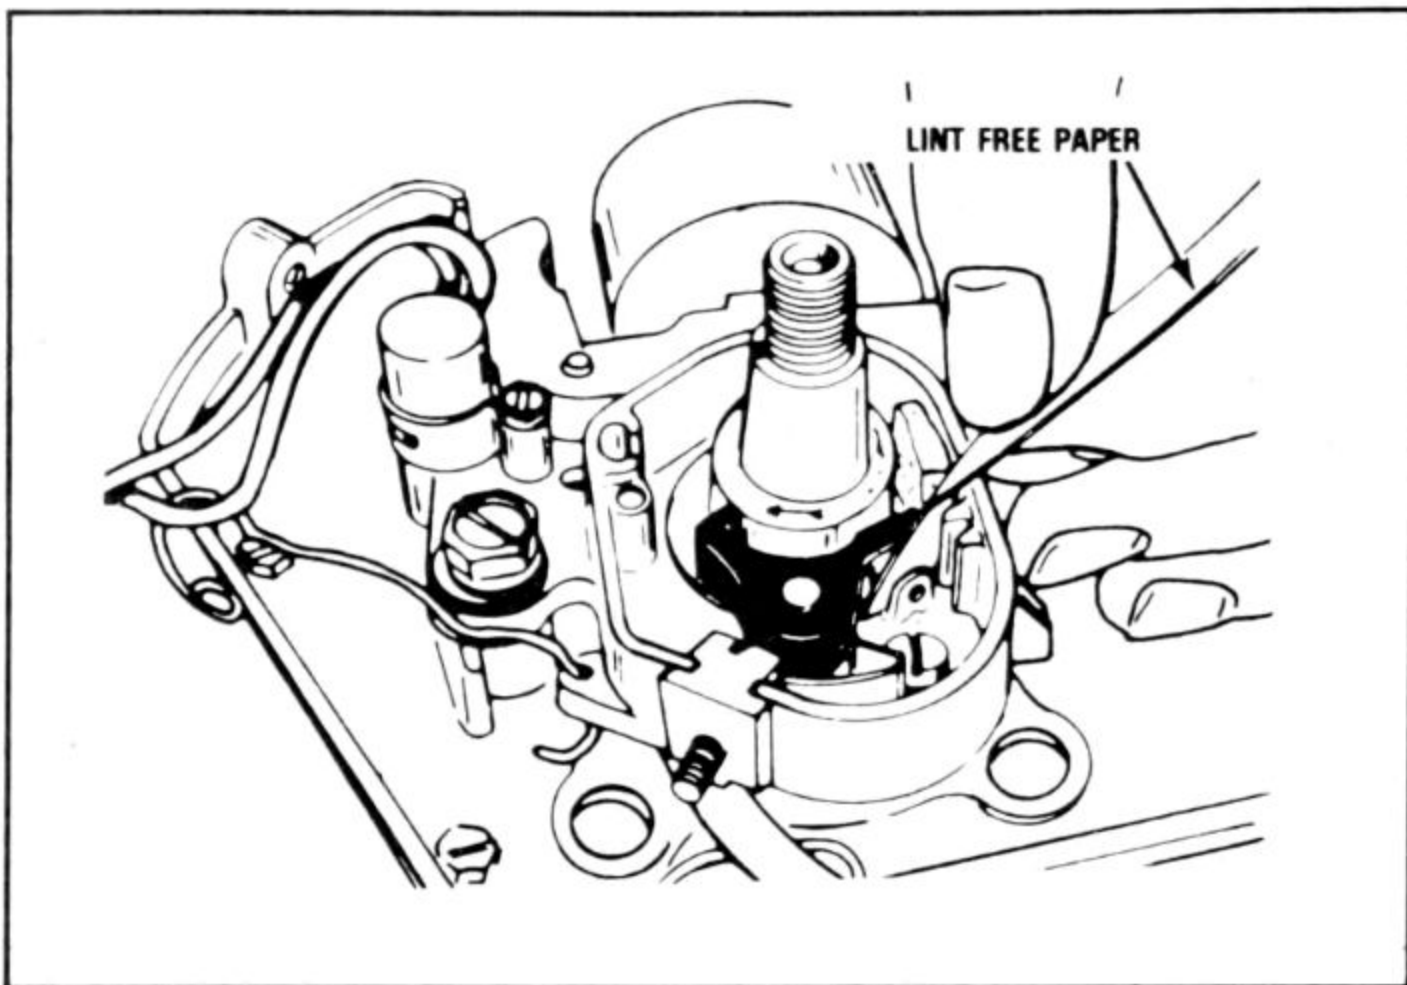

Fig. 2-24. After adjustment, point contacts should be burnished with paper to remove oil and possible oxidation. Snap points to remove any lint.
Step 6. Burnish points with a piece of cardboard (torn from the box that the points came in) to remove fingerprints, oil from the feeler gauge, and oxidation (Fig. 2-24).